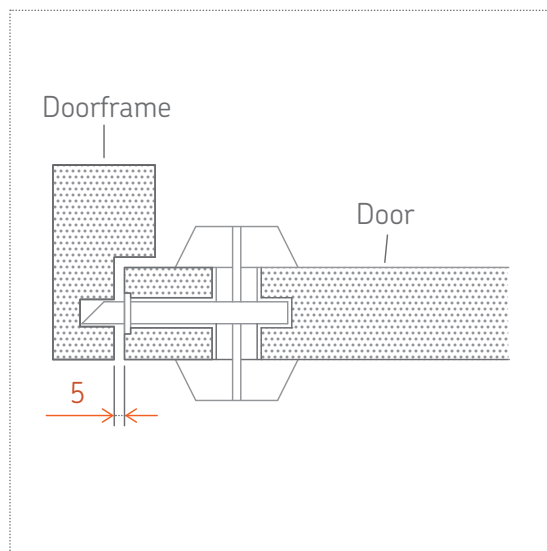

Figure 4: The tolerance between the door and the frame
- The **tolerance between** the door and the frame is defined as the space between the door and frame at the lock (figure 4).